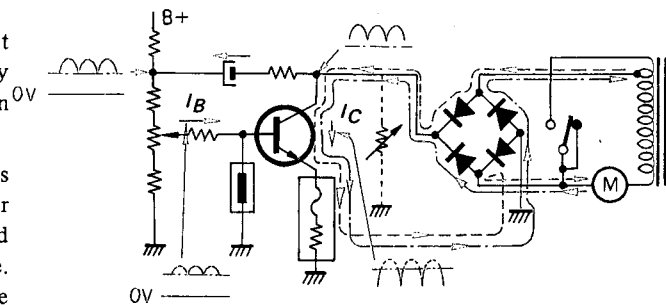

Fig. 10
(Refer to Figs. 10, 11)
1. As the base current of the drive transistor is changed, the impedance between the collector and the emitter varies and the voltage supplied to the motor varies to change the motor torque. By utilizing this relationship, the motor torque can be controlled. (Refer to Fig. 10)